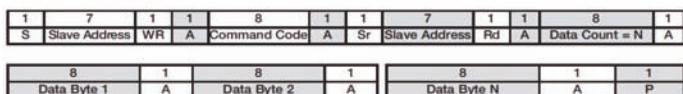

Figure 2 – data byte structure
All transactions end with a stop (P) bit. The three standard transaction types are shown below in Figure 2 together with a typical timing diagram for the write byte transaction. Grey boxes indicate that the data is being transferred from the slave to the master. For further information refer to the PMBus 1.1 specification.